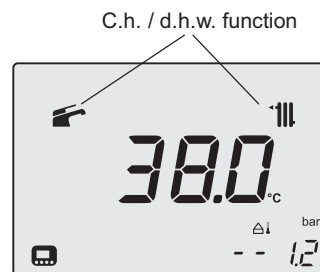

Figure 11.3
- 6 Set the boiler in c.h. / d.h.w. function as illustrated in Figure 11.3.